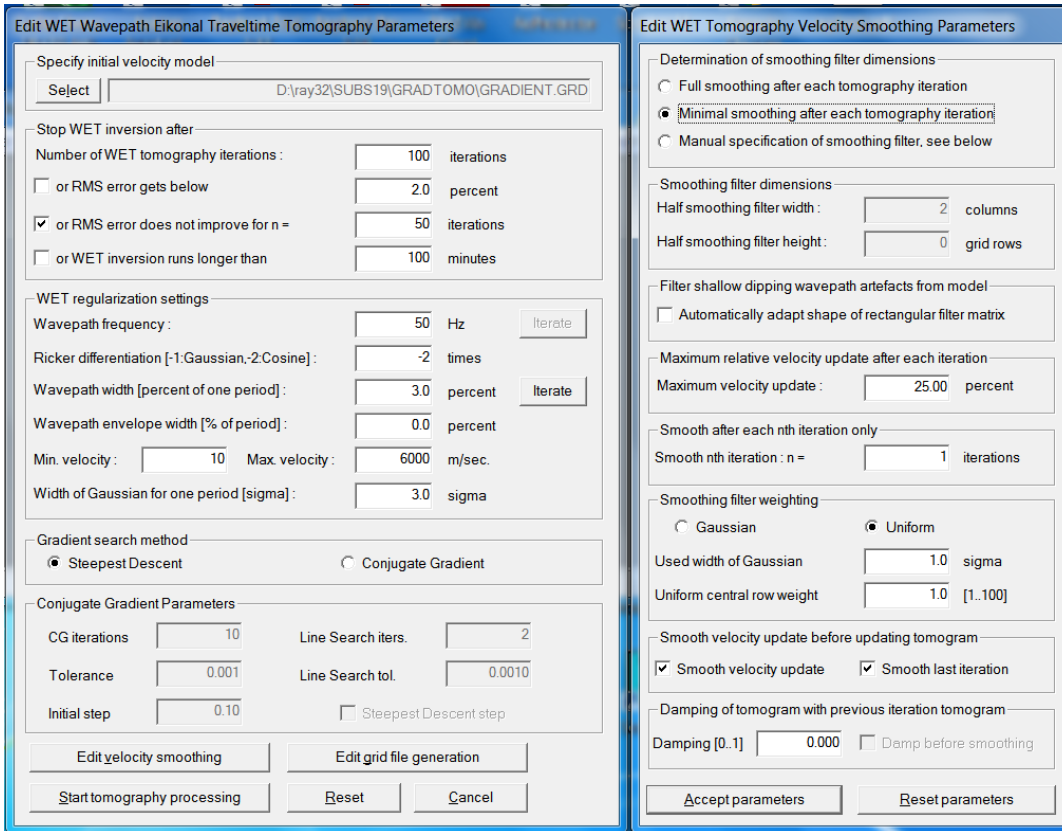

Fig. 4 : WET parameter settings for Fig. 3. left : main interactive WET dialog. right : edit velocity smoothing
Fig. 1 : left : *Trace|Shot gather*, right : *Refractor|Shot breaks*. Shows fit between picked times (solid colored curves) and modeled times (dashed colored curves) obtained by forward modeling over Fig. 4
- set *Number of WET tomography iterations* to 100. Set *Ricker differentiation* to -2 and click button *Edit velocity smoothing*. See Fig. 4.
- Fig. 4 shows *WET parameters* used to obtain Fig. 3
Fig. 3a : Tomogram with 1D-gradient starting model, 100 Steepest Descent WET iterations. Wavepath width 3%, Max. velocity 6,000 m/s. Minimal smoothing, don't adapt shape of rectangular filter. WET settings as in Fig. 4.